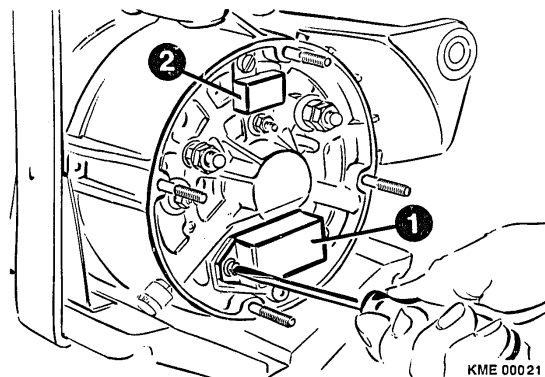

Figure 6 Voltage Regulator (1) and Suppression Capacitor (2)
1. Remove the three (3) screws that secure the regulator to the collector ring end shield. (Figure 6)